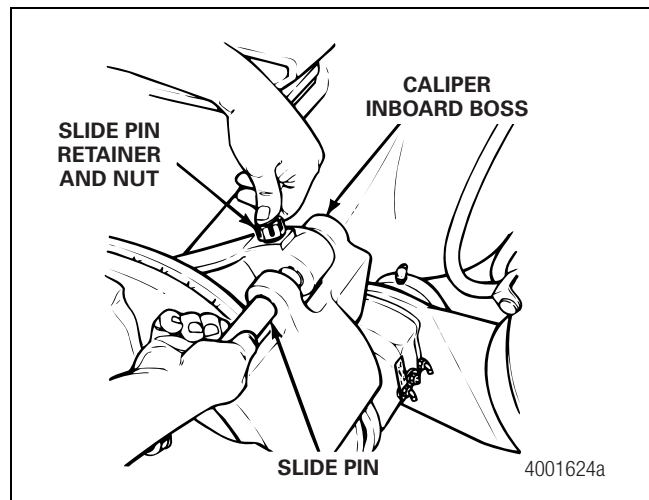

Figure 10.5
11. Support the caliper at the air chamber while you remove the slide pin. Press the end of the retainer to release the slide pin and remove the slide pin. Figure 10.5.